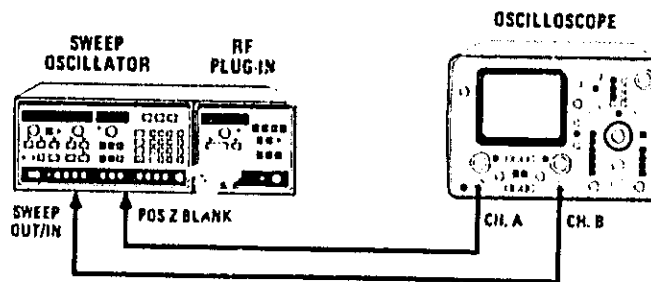

Figure 5-14. Delay Compensation Adjustment Test Setup
14. Connect the equipment as shown in Figure 5-14. On the 8350A, press **INSTR PRESET**, then **CF**, **M1 150 MHz**, **SWEEP TIME .5 S**.